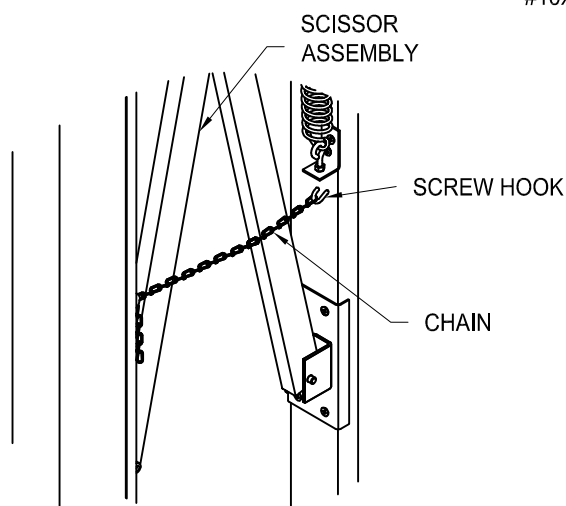

FIG. 7
8. Attach top projection material: Prior to attaching the top projection material, release retraction arm to the desired projection. To ensure that this position remains constant, tie off arms with chain (fig. 7).